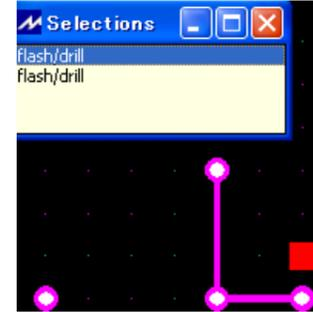

Fig. 31 Selecting an element
① Click “Display Distance” icon  on the menu bar.
② The status bar says “Select a first element”. Click No. 1 pin of the DIP8 component. In a popup menu shown in Fig. 31, select “flash/drill”.